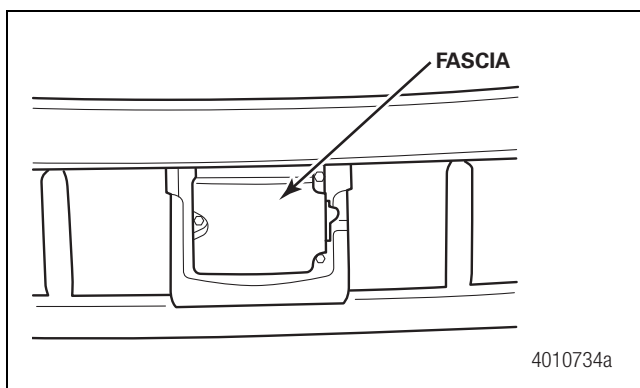

Figure 7
7. Place the fascia in position over the radar sensor. Install the M6 x 35 mm flange-head bolts included in the kit and dry tighten to 91 in-lb (10.3 N•m). Figure 7.